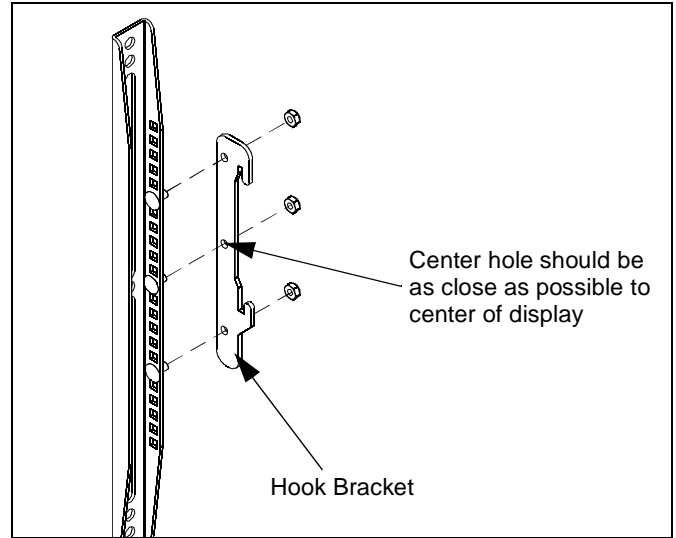

Figure 6
**NOTE:** The hook brackets can be moved above or below the center line, as needed, to fit the application and/or the desired level. (See Figure 6)